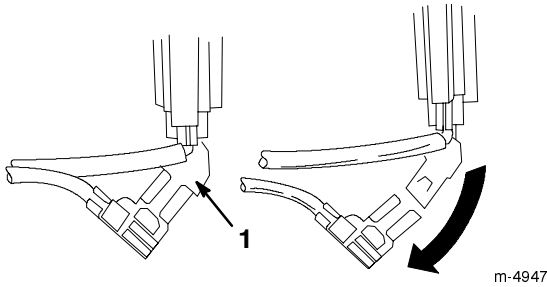

Figure 19
- Disconnect the green ground wire clip under the throttle (Fig. 19).